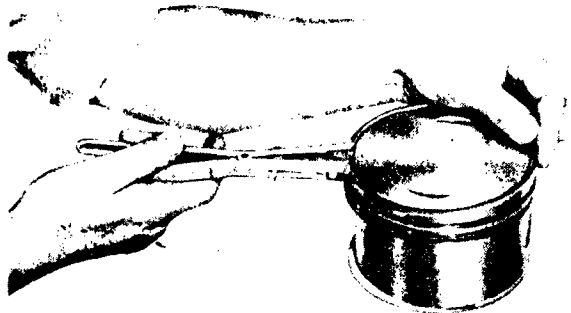

Figure 72 — Installing Piston Rings
7. PISTON RINGS (See figure 72)